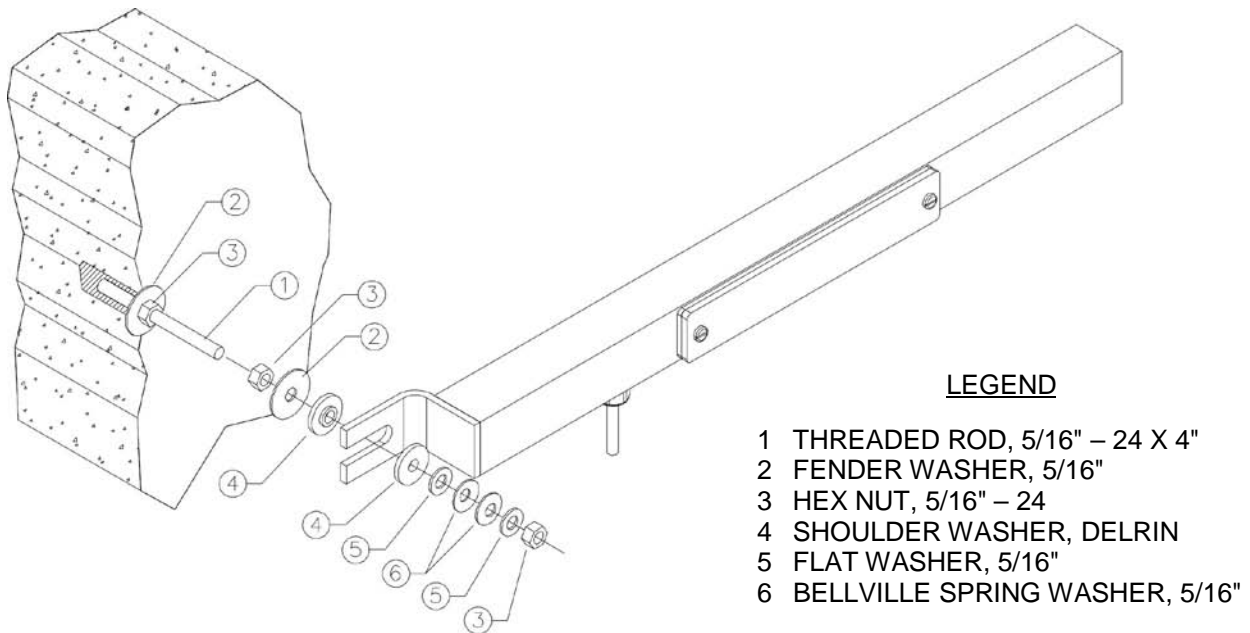

Figure 1 – **BEAMER** mounting
5. When epoxy has hardened completely, attach the **BEAMER** to the studs (see Figure 1). The **BEAMER** end fork is designed to slide laterally on the Delrin shoulder washers as the beam expands and contracts with temperature changes. It is therefore important not